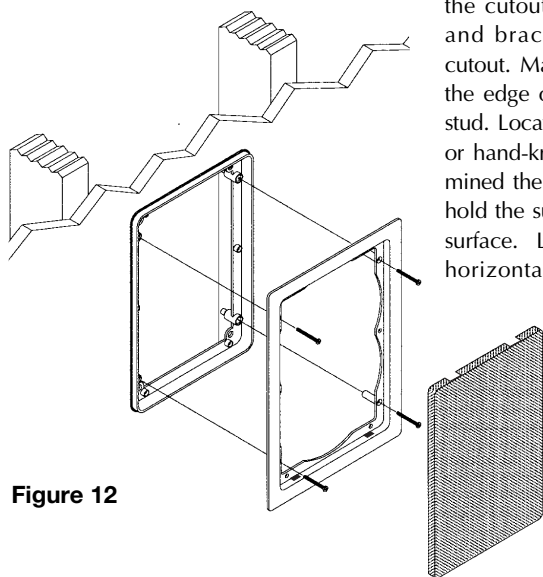

Figure 12
7. Attach the frame to the bracket by screwing the frame to the bracket using the supplied screws. Do not overtighten the screws, this will distort the frame and the grilles will not fit (this is not permanent, just loosen the screws and the grille will pop in). The screws should pull the frame and bracket together (sandwiching the drywall) so that the frame is absolutely flush with the wall surface. There should be no gaps between the wall and the frame **(See Figure 12).**